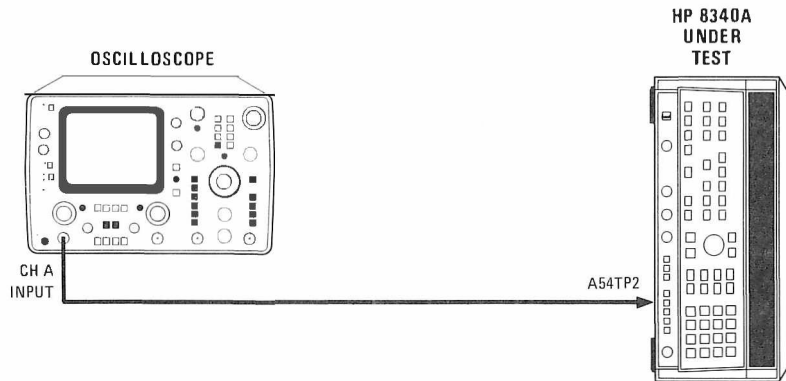

Figure 5-23. YO Kick Pulse Test Setup
1. Position the 8340A in the Test Position as shown in Figure 5-23 with bottom cover removed. Connect equipment as shown in Figure 5-23 and allow one-half hour warm up time.